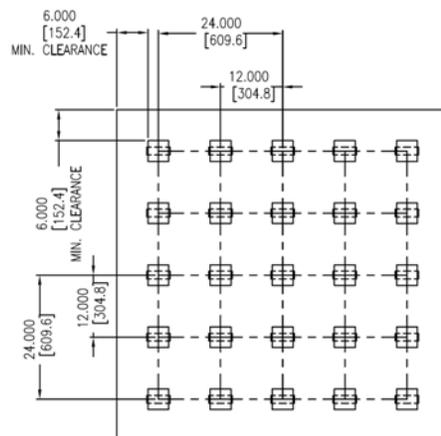

Figure 17. Example of 12''x12''(30.5x30.5 cm) Anchor Pattern
- c. For flat ceilings, such as closed cooler roofs, ceramic anchors or combinations of ceramic and metallic anchors are recommended to be staggered on 12''(30.5 cm) centers, both horizontally and vertically as shown in Figure 17.